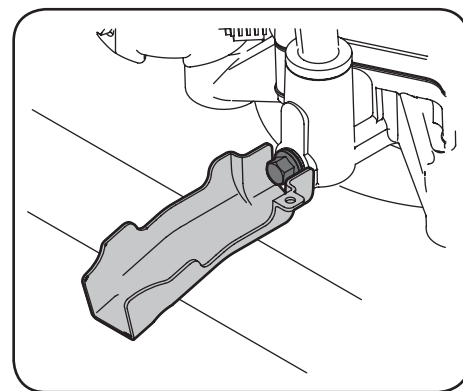

Figure 4-2
4. Snap the small end of oil drain sleeve onto the oil sump. See Figure 4-2.